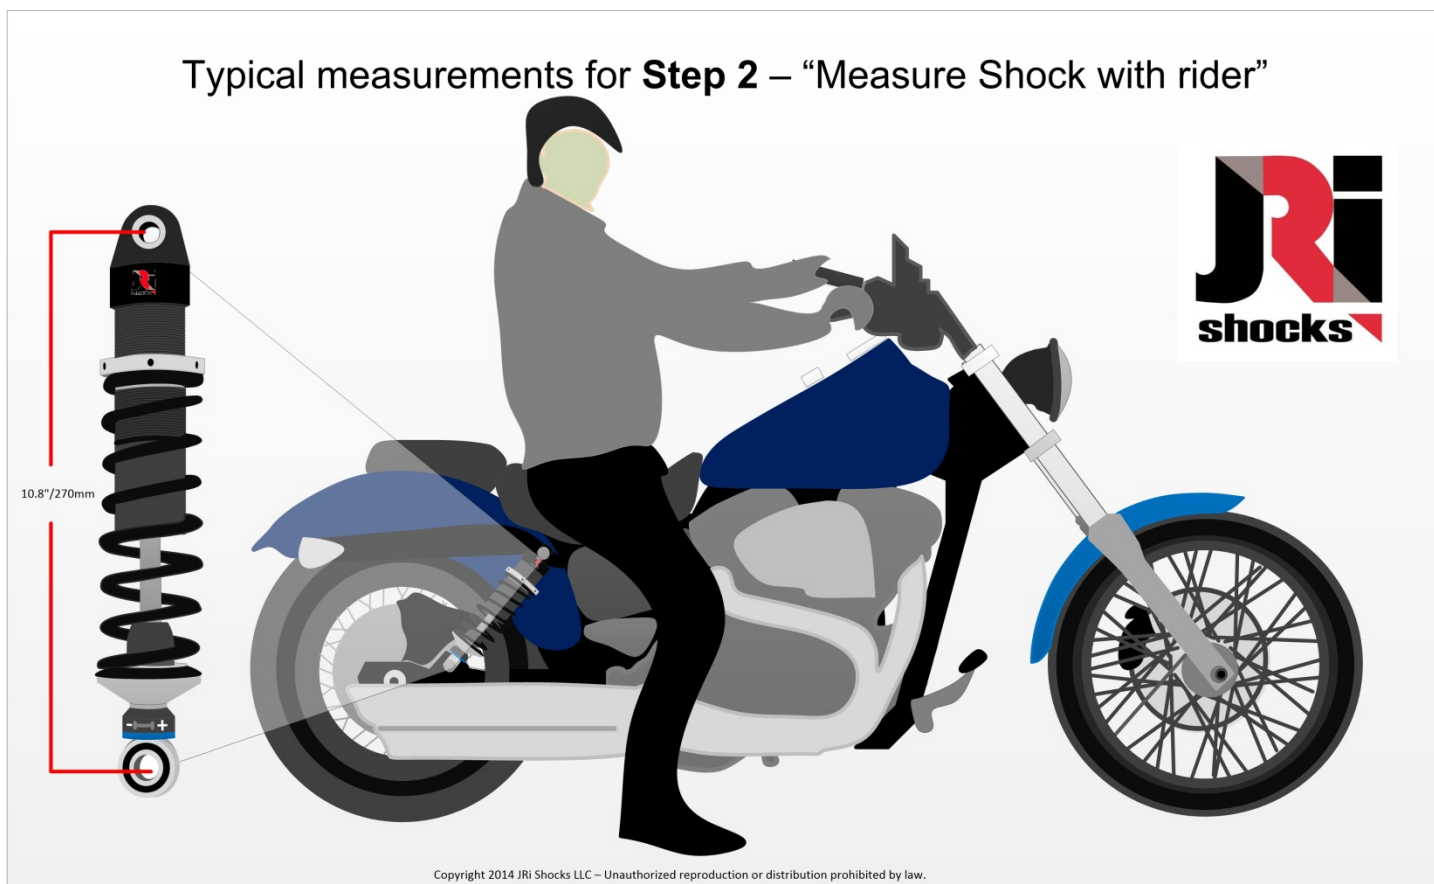

Figure 9 - Second measurement for setting sag
- 2) Record this measurement as “B” (SEE Figure 9)